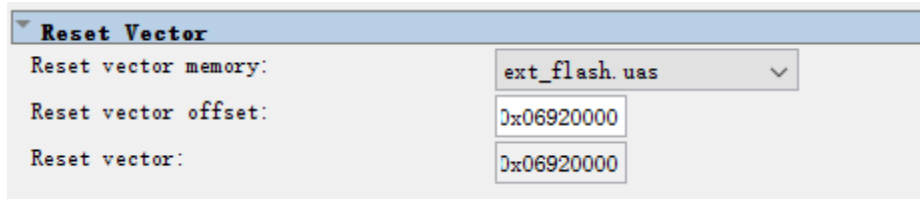

Figure 4-6 Reset Vector Settings for NIOS II Processor
- In NIOS II processor options, select FLASH as reset vector memory and specify 0x06920000 as reset vector, as shown in **Figure 4-6**.